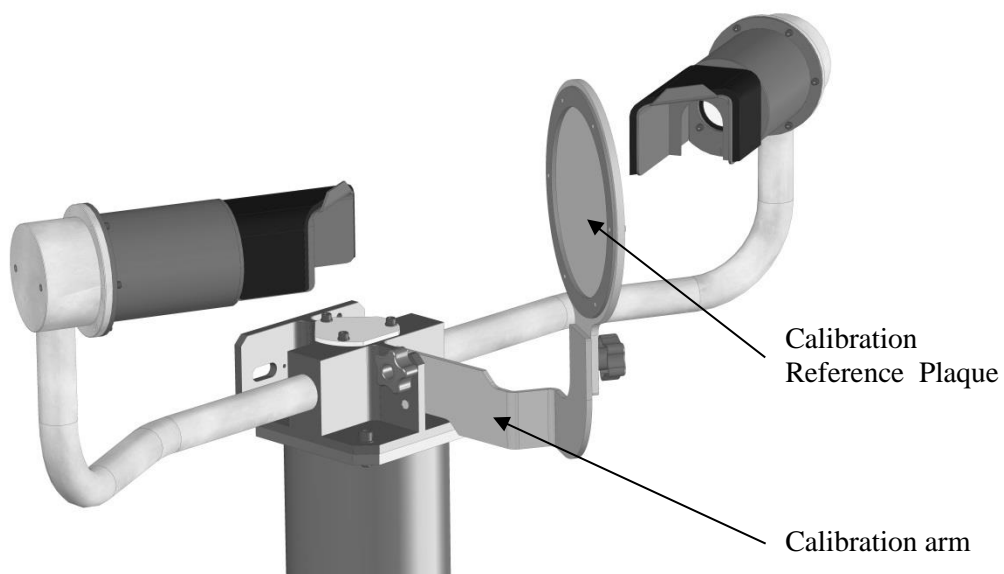

Figure 5-1 - Assembly of Calibration Reference Plaque
Please see Figure 5-1 - Assembly of Calibration Reference Plaque for a diagram of the Calibration Reference Plaque attached to a sensor.
The calibration reference plaque should first be attached to the arm. Confirm that the serial number marked on the calibration reference plaque matches that on the label on the calibration arm. If not, do NOT use this assembly as it may not give a true calibration. This assembly should then be attached to the sensor as shown in Figure 5-1 - Assembly of Calibration Reference Plaque.
Step 2: Attach the calibration reference plaque to the sensor as shown in Figure 5-1 - Assembly of Calibration Reference Plaque (power to the sensor need not be removed). Do not stand close to the sensor during calibration as reflections may cause errors in the reported values.